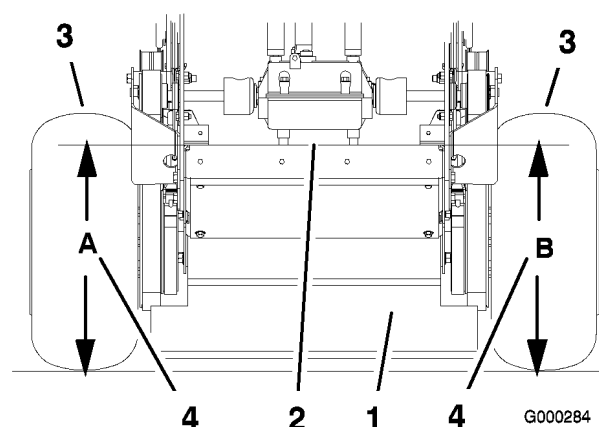

Figure 60
4. Measure engine deck height at location **A** (Figure 60).
5. Measure engine deck height at location **B** (Figure 60).